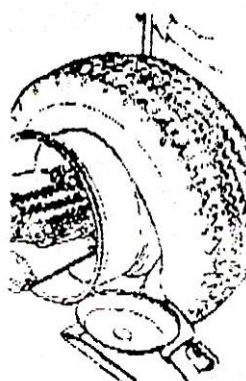

Fig2.4
- 5) Move the tool arm to the inside pull the edge of the inner tube also moves it to the outside of the rim. Turn the tire, until the edge of inside separated from the rim (see Fig2.4).